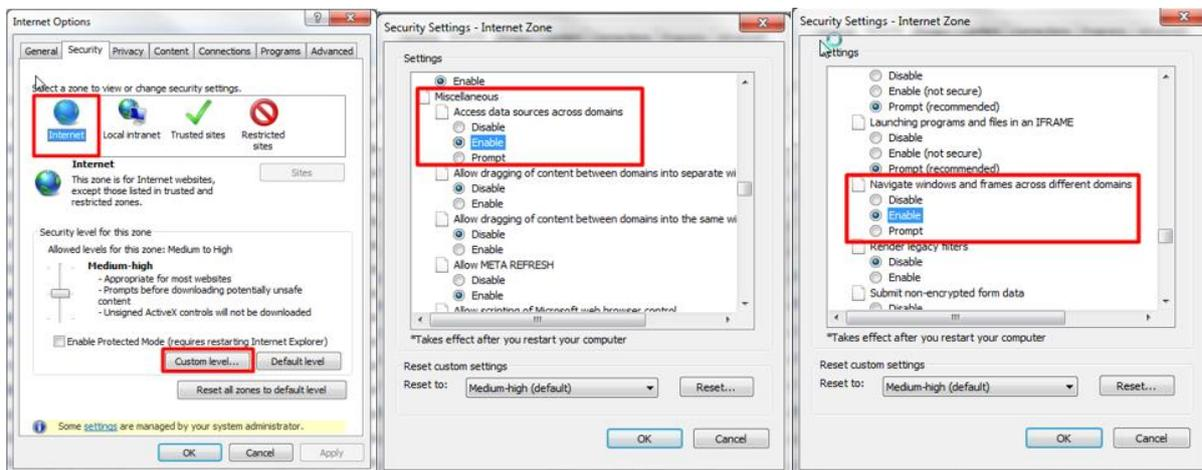

Figure 6-33 Internet install
2. Please enable “Cross-domain browsing windows and frames” and “Access data sources through domains” on the “Security” tab in Internet Explorer “Internet Options”, as shown in Figure 6-33.